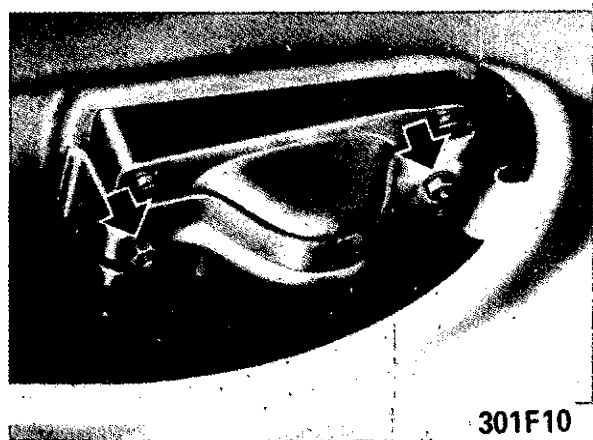

Figure 1 F-10 • Removing Rear Side Marker Lamp
1. Pry courtesy light out of roof frame, as shown in Figure 1 F-11.